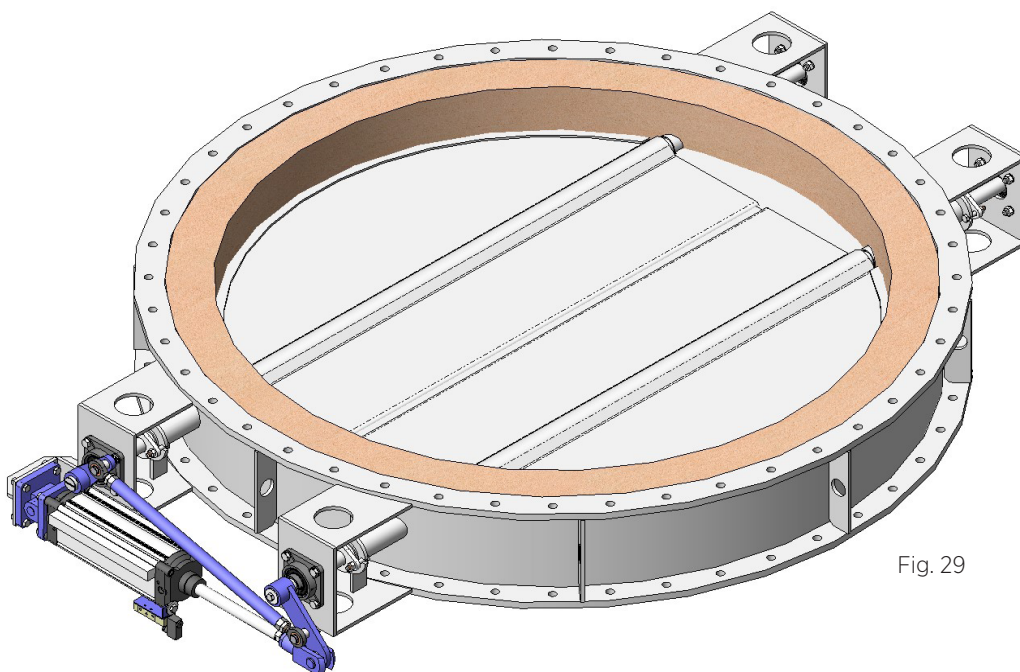

Fig. 29
- Linear pneumatic cylinder (fig. 29) *